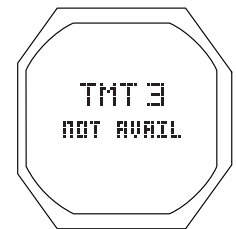

Fig. 100B - TMT NOT REPORTING
- > If the TMT is not reporting, a message will be displayed for 10 seconds (Fig. 100B) and the Switch will be canceled.